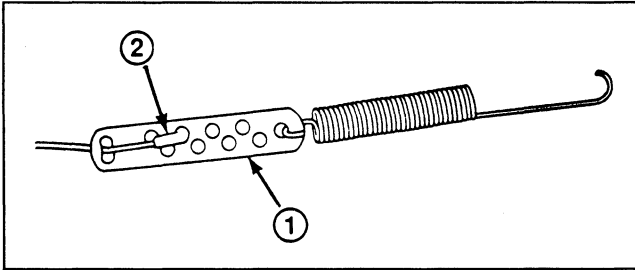

Figure 10
3. **ADJUST CABLE** (Fig. 10)—Unhook spring end from the top hole in control bar bracket. Slide spring cover off cable to expose cable adjuster. Unhook Z fitting from cable adjuster and reposition Z fitting in a higher or lower hole on adjuster to obtain proper gap of 1/16"–1/8". Reinstall spring cover over cable adjuster. Rehook spring into top hole of control bar bracket.